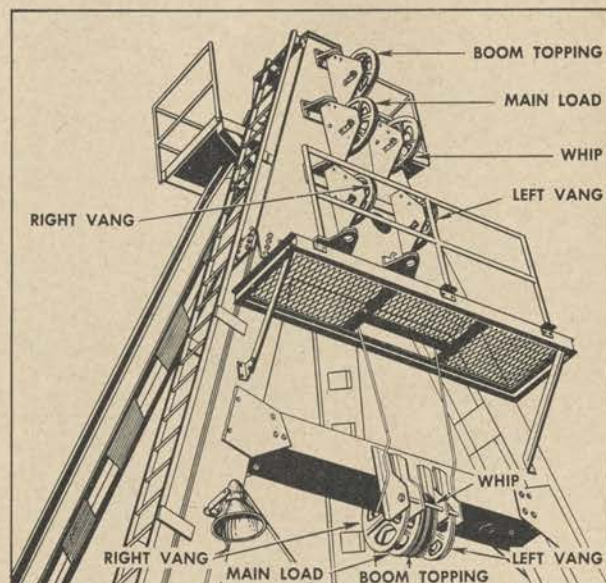

Figure 132. Fair leads on A-frame.
fairlead block pulley assembly located on the A-frame cross brace. (See fig. 132.)
(2) The fairlead block assembly on the cross-brace consists of five sheaves: a center assembly of sheaves carrying the main load cable, the topping cable and the whip cable, the right sheave for the right vang cable, and the left sheave for the left vang cable. Figure 132 also illustrates the remaining five sheaves mounted on the A-frame. These are identified as follows, viewing from bottom to the top:
- (3) Remaining blocks and sheaves for the reeving of the cables are described under individual reeving instructions.